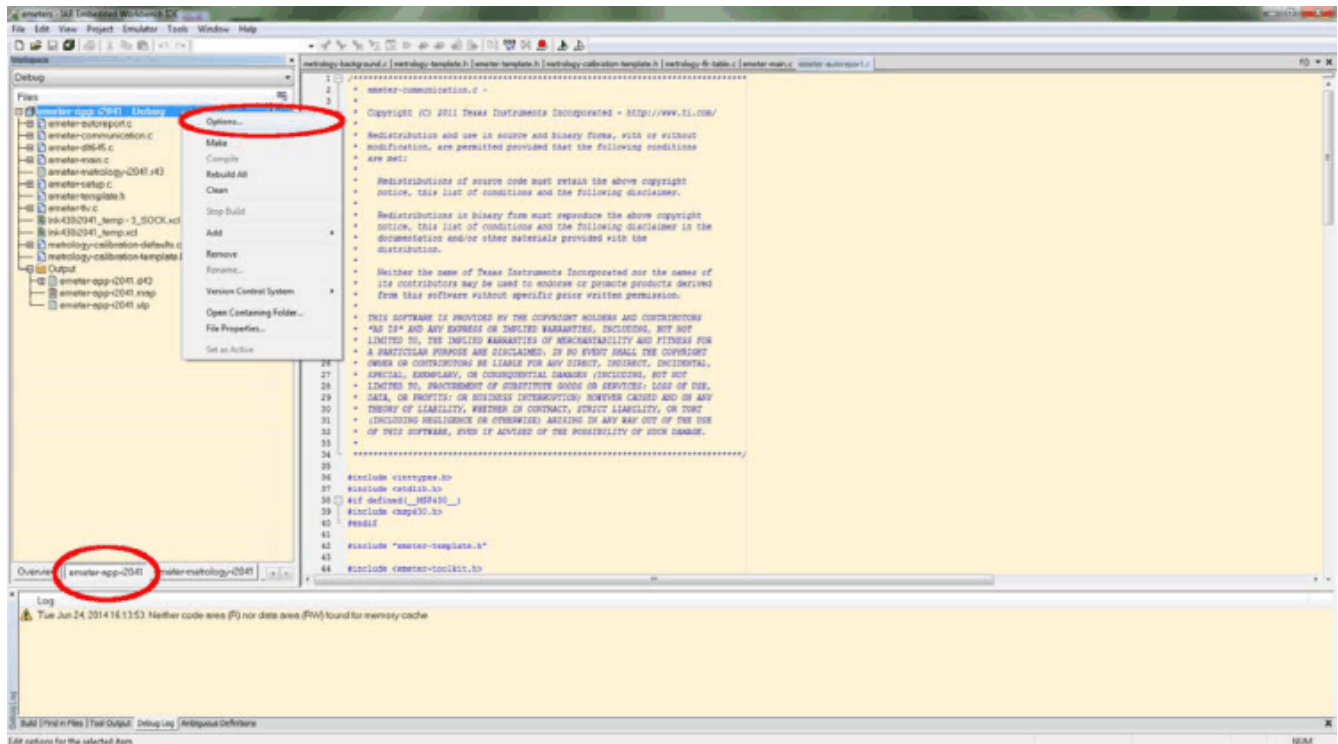

Figure 9-2. Project Tab
4. Check the project options by right clicking on the project name and selecting Options... from the pop-up menu as shown in Figure 9-2.